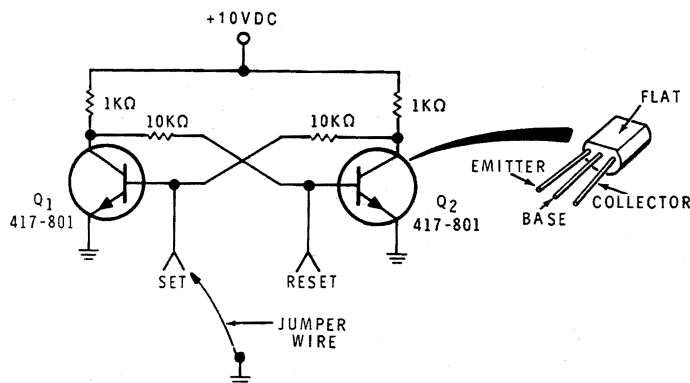

Figure 6-50
14. Turn on the Trainer and adjust the (+) power supply voltage control for 10 VDC. Turn off the Trainer and construct the circuit shown in Figure 6-50.